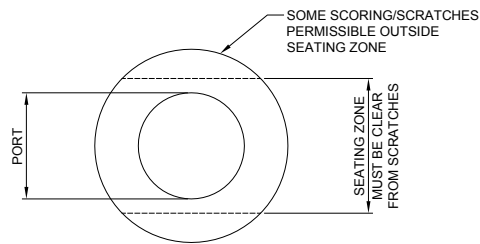

Fig. 6
- 8.29 The ball must have no scratches or scoring, other than minor signs of rubbing, around its seating periphery (fig. 6). Any components that do not pass inspection should be replaced.